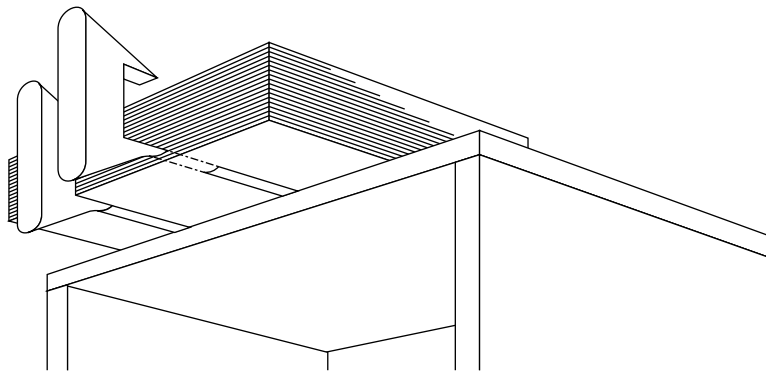

Figure 10-1 Attaching the Workstation Stand to the Workstation
3. Look at the underside of the workstation. You will see guides for the workstation stand, as shown in Figure 10-1.